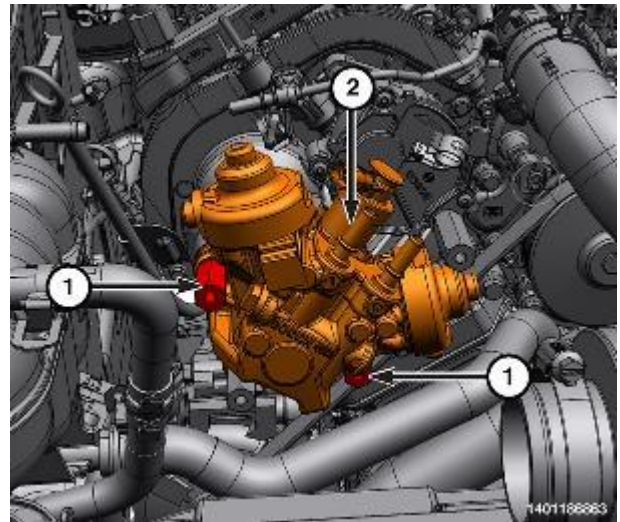

Figure 38 – Fuel Quantity Solenoid Connector and HPFP Upper Bolts
- 72. Remove the upper bolts (1) from the high-pressure pump (2) (Figure 38).
84. Tighten the bolts (1) that secure the fuel injection pump to 25 N·m (18 ft. lbs.) (Figures 38 and 39).